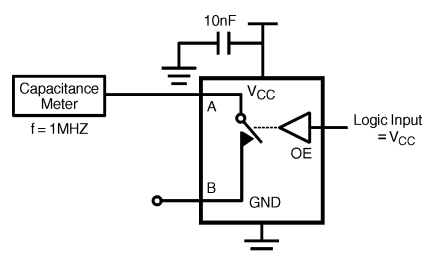

FIGURE 7. Channel On Capacitance
| $C_{IO} \text{ (ON)}$  | Switch Port Capacitance when Switch is Enabled | 10.0 |     | pF    | $V_{CC} = 5.0\text{V}$ | Figure 7 |